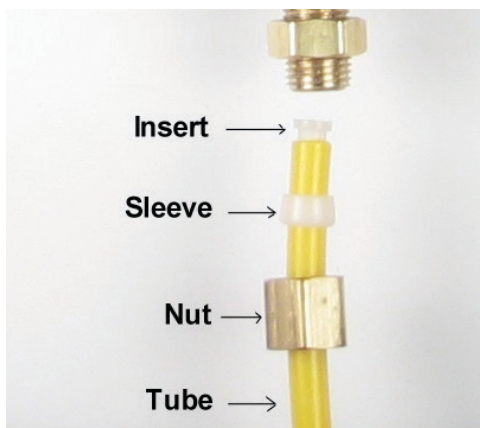

Fig. 10
- See **Fig. 10**. Slide the compression nut onto the tubing.
Fitting type: See **Fig.10 (Page 12)**. Metal compression nut fitting. Use **plastic sleeve**. Add "insert" to tubing. No teflon tape here. Tighten nut with wrench.